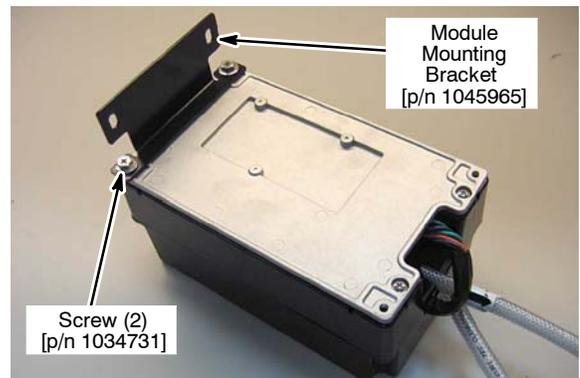

Fig. 29
- Using two m6x1.00x16 sems screws [p/n 1034731], attach the *ec-H2O* module mounting bracket [p/n 1045965] to the *ec-H2O* module as shown (Figure 29).